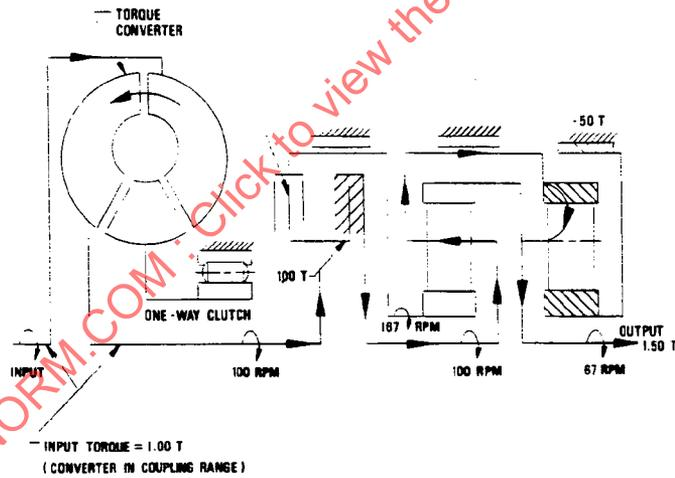

FIGURE 4 - Four Speed Transmission Diagram - 2nd Speed (1.50:1)
3.3 Planetary gear transmission (Figure 4): Second gear is illustrated. The pertinent brake band is crosshatched to denote brake application. Additional information added to this diagram is optional: